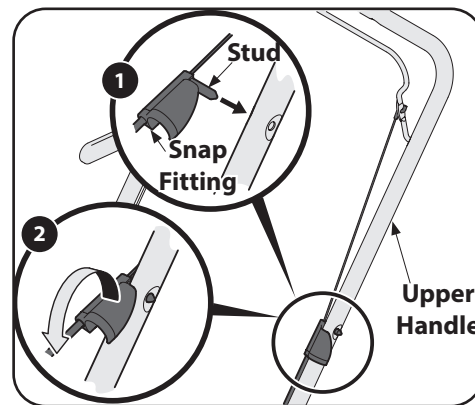

Figure 3
1. Press the stud found inside the snap fitting into the hole found on the left side of the upper handle, as shown in Figure 3.